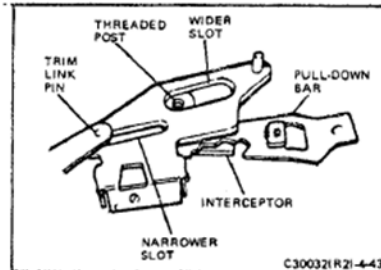

FIGURE 4-43 CAM FOLLOWER ASSEMBLY
- a. The cam follower assembly includes the interceptor which must reach under the pull-down bar of solenoid no. 2. Use tweezers and slide the interceptor under the bar. At the same time, position the cam follower so that its wider slot is centered over the threaded hole in the mounting post (see Figure 4-43). Secure it with the cam follower retainer.
- (1) Install the compression spring into the positive-stop-spring socket in the shutter casting.
- (2) Insert the stop pin on top of the compression spring.